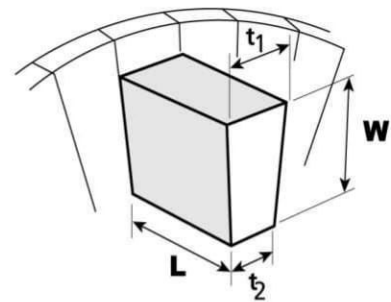

Figure 5. Wedge Brush
- Note 3. When dimensioning brushes used on flat collectors, refer to Figure 5.